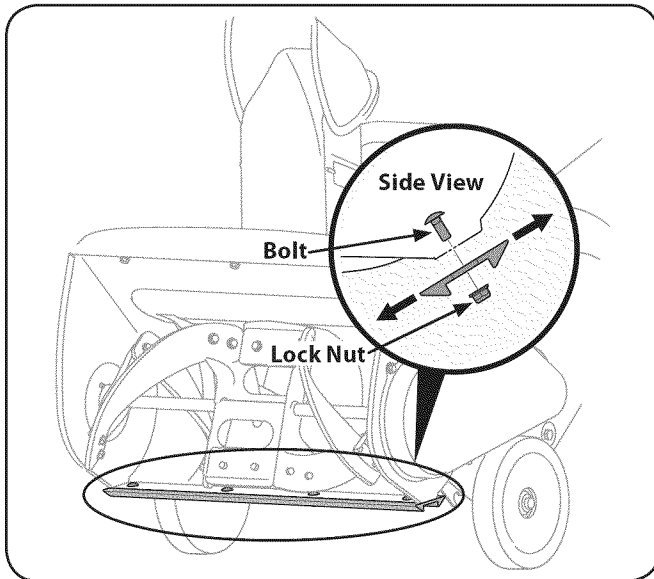

Figure 6-1
3. Loosen the four lock nuts and bolts which secure the shave plate to the housing. See Fig. 6-1. Move the shave plate to the desired position and retighten the nuts and bolts securely.